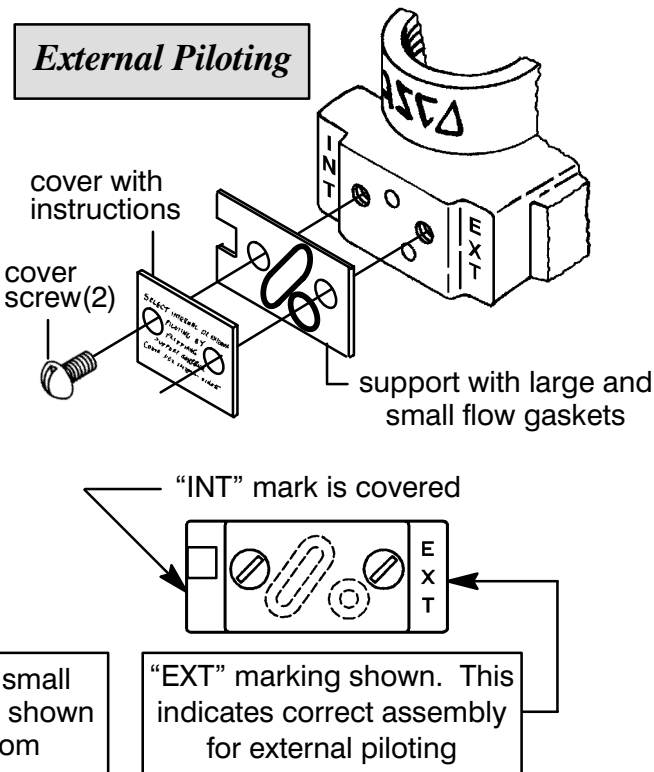

Figure 2. Positioning of support with flow gaskets for external piloting mode.
2. Refer to views in Figure 2 for proper location and position of parts for **External Piloting Mode** of operation.
4. Line up support (with flow gaskets) on side wall of valve body using machine screw holes as a guide. When support is correctly positioned (as shown in Figure 2.) the letters EXT are visible and letters INT on opposite side are covered by the support. Confirm proper alignment with views in Figure 2. Then replace cover and cover screws. Torque screws evenly to 13 ± 1 in-lbs [$1,5 \pm 0,1$ Nm].